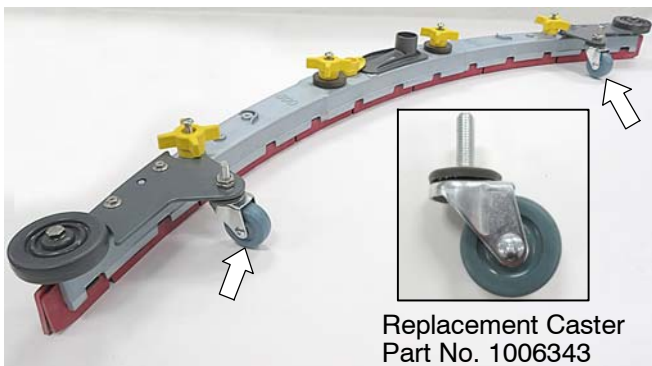

FIG. 141
- Replace the squeegee casters every 5th replacement blade set or 500 hours or 12 months of machine use, whichever comes first. Uneven floor types may require more frequent replacements (Figure 141).